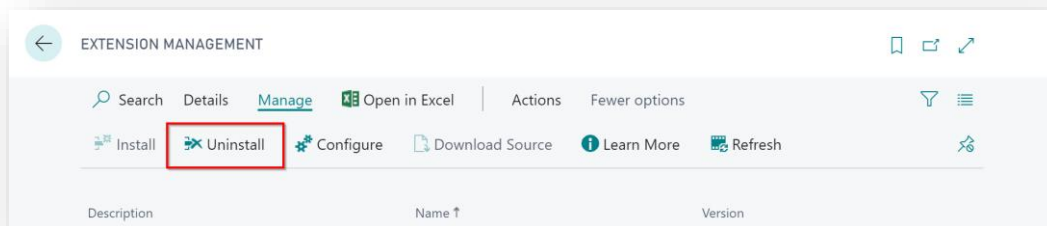

Figure 5-2
3. Select the **SD Stores Manager** App and choose the **Uninstall** action (Figure 5-2).